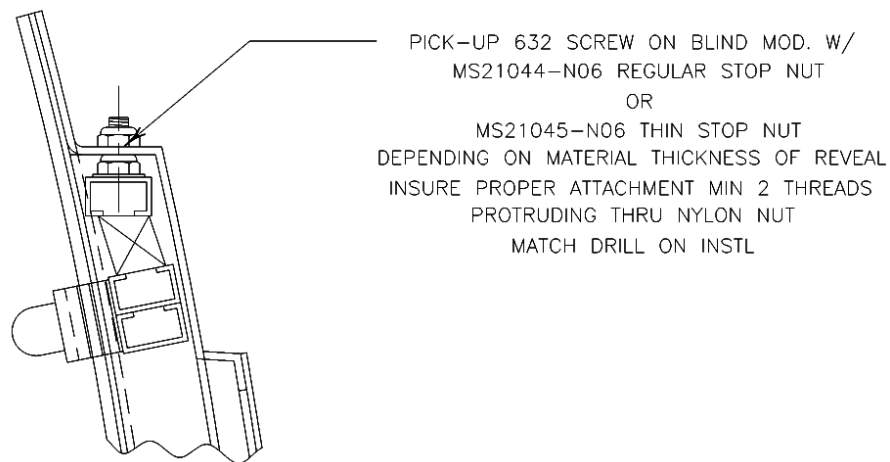

FIGURE 6/ GRAPHIC 25-22-10-991-006
- A. Reattach upper blind mod. to the reveal by inserting the upper rail's screws thru the two existing holes in the top of the reveal cavity, and secure with MS21054-N05 or MS21054-N06 stop nuts. (See FIGURE 6/ GRAPHIC 25-22-10-991-006)